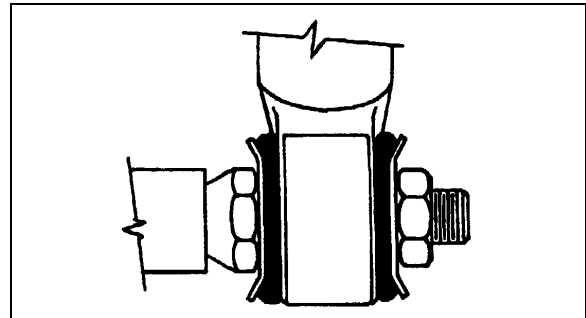

FIGURE 45: TYPICAL SHOCK ABSORBER SETUP 16009
3. Place the inner washers (with washer convex side facing the shock absorber rubber bushing) on each shock absorber pin (Fig. 45).